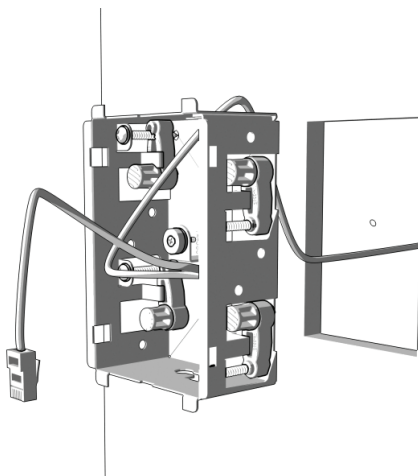

Figure 4: Mounting Cradle Installation
4. Prior to placing the mounting frame into the wall, pull a sufficient length of the Cat5 cable and its attached RJ-45 connector through the opening in the top of the mounting frame, as shown in figure 4.